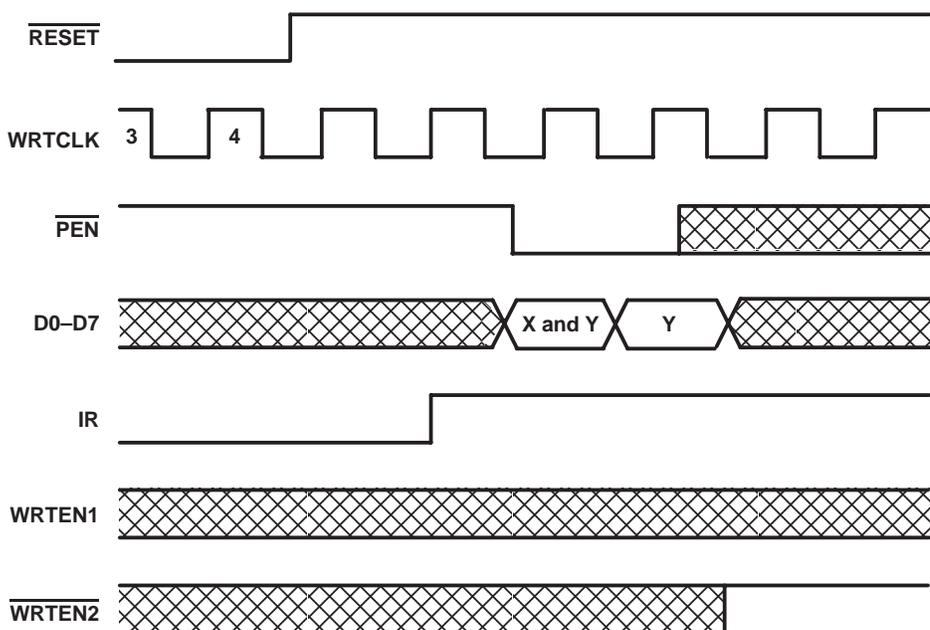

Figure 4. Programming X and Y Separately
Program enable ( $\overline{PEN}$ ) should be held high throughout the reset cycle.  $\overline{PEN}$  can be brought low only when IR is high and WRTCLK is low. On the following low-to-high transition of WRTCLK, the binary value on D0–D7 is stored as the almost-empty offset value (X) and the almost-full offset value (Y). Holding  $\overline{PEN}$  low for another low-to-high transition of WRTCLK reprograms Y to the binary value on D0–D7 at the time of the second WRTCLK low-to-high transition. When the offsets are being programmed, writes to the FIFO memory are disabled, regardless of the state of the write enables (WRTEN1, WRTEN2). A maximum value of 255 can be programmed for either X or Y (see Figure 4). To use the default values of  $X = Y = 64$ ,  $\overline{PEN}$  must be held high.